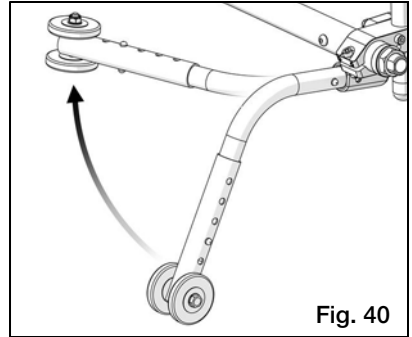

Fig. 40
3. Turning anti-tip tubes up (Fig. 40)